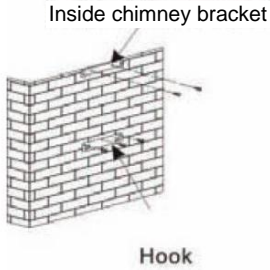

Fig.2
- Install the hook on a suitable place once the installation height is fixed, and keep it in line. The fixed position of the hood bracket is the place of the chimney. See Fig. 2.